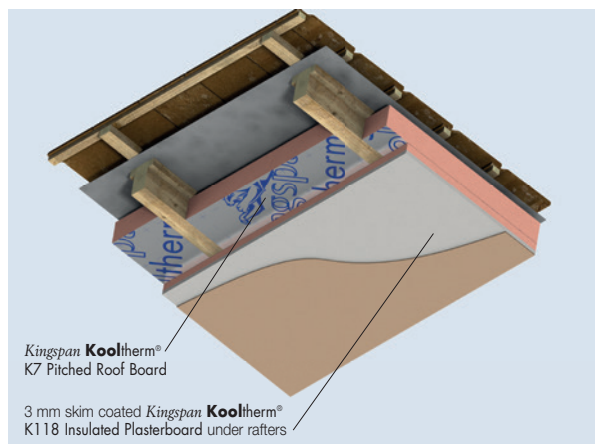

Figure 8 – Mechanically Fixed to Timber Rafters with **Kingspan Kooltherm® K7 Pitched Roof Board** Between Rafters
- Sheets of **Kingspan Kooltherm® K118 Insulated Plasterboard** may be used to line ceilings (see Figure 8).